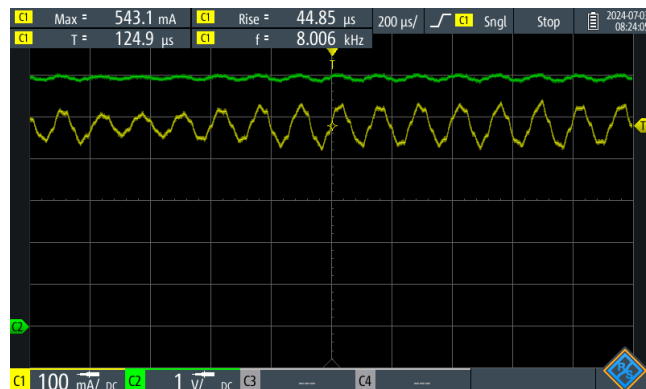

Figure 7. Stable oscillations obtained, used for  $K_u$  and  $T_u$
2. Find the ultimate gain  $K_u$  by increasing  $K_p$  until the output begins to show stable oscillations as can be seen in Figure 7.